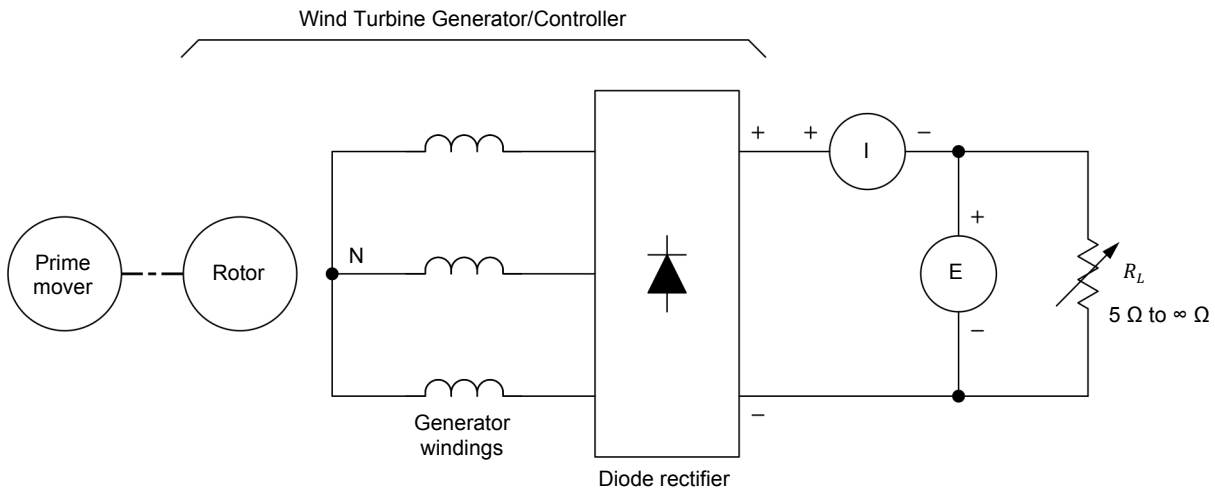

Figure 35. Equipment setup.
9. Set up the circuit shown in Figure 35. In this setup, the prime mover drives the wind turbine generator, thereby producing an ac voltage across the generator windings. A diode rectifier in the Wind Turbine Generator/Controller converts this ac voltage into dc voltage to supply electrical dc power to a variable resistive load, R_L (5 Ω to infinite Ω).
Set a multimeter to measure dc voltage and connect it across the load, as Figure 35 shows.
Appendix C of this manual lists the switch settings to be performed on the Resistive Load module in order to insert various resistance values into the circuit. The resistance provided by the Resistive Load module cannot be decreased below $57\ \Omega$. To further decrease the load resistance, stop the prime mover (wind-turbine emulator), then disconnect the Diode Rectifier output of the Wind Turbine Generator/Controller from the Resistive Load module. On the Wind Turbine Generator/Controller, connect the Diode Rectifier output to the Load Resistors and connect these resistors in order to set the load resistance to different values. The possible resistor arrangements (series, parallel, series-parallel) provide resistance values between $5\ \Omega$ and $45\ \Omega$. Be sure to include the ammeter and the voltmeter in the circuit in order to measure the dc voltage and dc current supplied to the load, as shown in Figure 35. For each load resistance setting, start the prime mover and record the rotation speed, torque, and mechanical power at the wind turbine rotor in Table 3. Also, record the dc voltage and dc current supplied to the load by the wind turbine generator. Stop the prime mover before modifying any connection between these Load Resistors.
Connect the multimeter set to measure dc current in series with the *Diode Rectifier* output, as Figure 35 shows. Connect the multimeter set to measure dc voltage across the load, as Figure 35 shows.